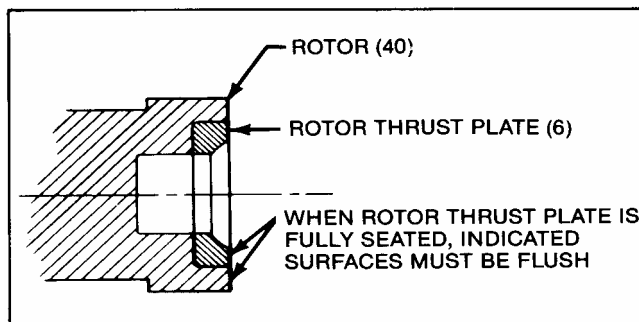

Figure 4-6. Rotor Thrust Plate Seating Detail
1. Slip O-ring (41) over the rotor head and allow to hang loose. Insert primary thrust plate (6) into rotor head, flat side first. Thrust plate and rotor head surfaces must be flush to assure proper assembly and operation of the pump (see Figure 4-6.).
2. Assemble the rotor end gear joint by first fitting a gear joint seal (13) onto the connecting rod assembly (38). The seal must be positioned so that the flat face of the seal neck fits into the seal retainer component of the connecting rod assembly. Apply a small coating of approved gear joint lubricant to the inside surfaces of the seal.
3. Apply a small amount of lubricant to the flat face of the seal support (12) and slide it onto the connecting rod so that the flat face and radius of the support is against the seal (13).
4. Grease the concave spherical surface of the rear thrust plate (11) and position thrust plate against the seal (13) with the lip on the outside diameter of the seal fitting the step on the back side of the thrust plate.
11. Place O-ring (41) into step in gear joint shell. Align holes in head ring (42) with six threaded holes in end of gear joint shell and install stainless socket head screws (T). Tighten the six socket head screws evenly, checking to ensure O-ring (41) remains in place. When tightened properly, a small gap of a few thousandths of an inch may exist between the shall (39) and head ring (42).
12. Excess grease in the assembly will be purged from the vent hole while the socket head screws are tightened. Tighten the set screw (S) in the shall. Move the free end of the connecting rod in a circular motion to assure that the joint is free and assembled properly. this will also help to purge excess grease from the assembly.
13. Install the stainless steel pipe plug (C) in the second hole in the shell and tighten.